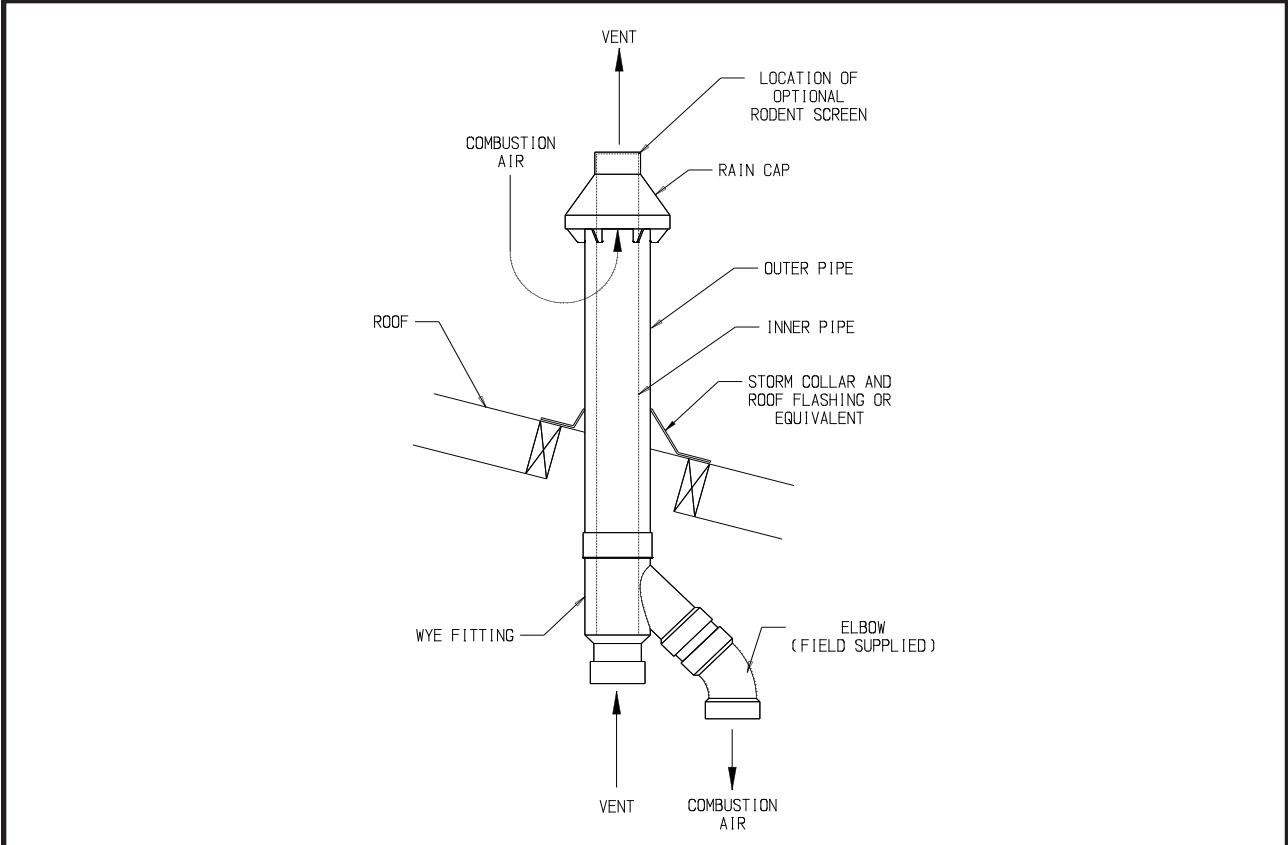

FIGURE 1.22: INSTALLATION OF OPTIONAL CONCENTRIC TERMINAL THROUGH ROOF
- f. Cement the inner pipe to the Wye, being careful, to keep the opposite end centered inside the outer pipe. Cement the rain cap onto the inner pipe. If desired, the rain cap can be attached to the inner pipe with a field supplied stainless steel screw so that it can be later removed for cleaning and inspection. If this is done, drill a clearance hole in the rain cap and a tap hole in the inner pipe to accept this screw. A 1/2" mesh field supplied rodent screen may also be installed between the rain cap and the inner pipe (Figure 1.22)